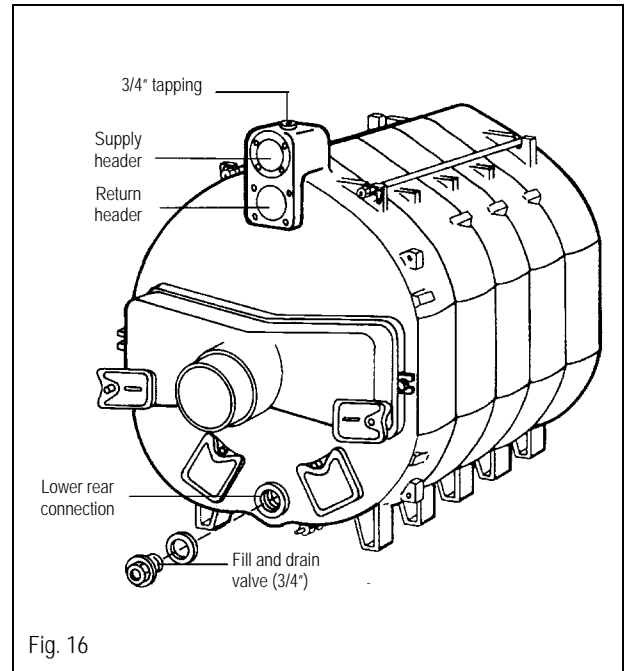

Fig. 16
- Install return header or flange on the lower tapping with gasket provided (Fig. 16).
- Install fill/drain valve at the lower rear connection (Fig. 16).